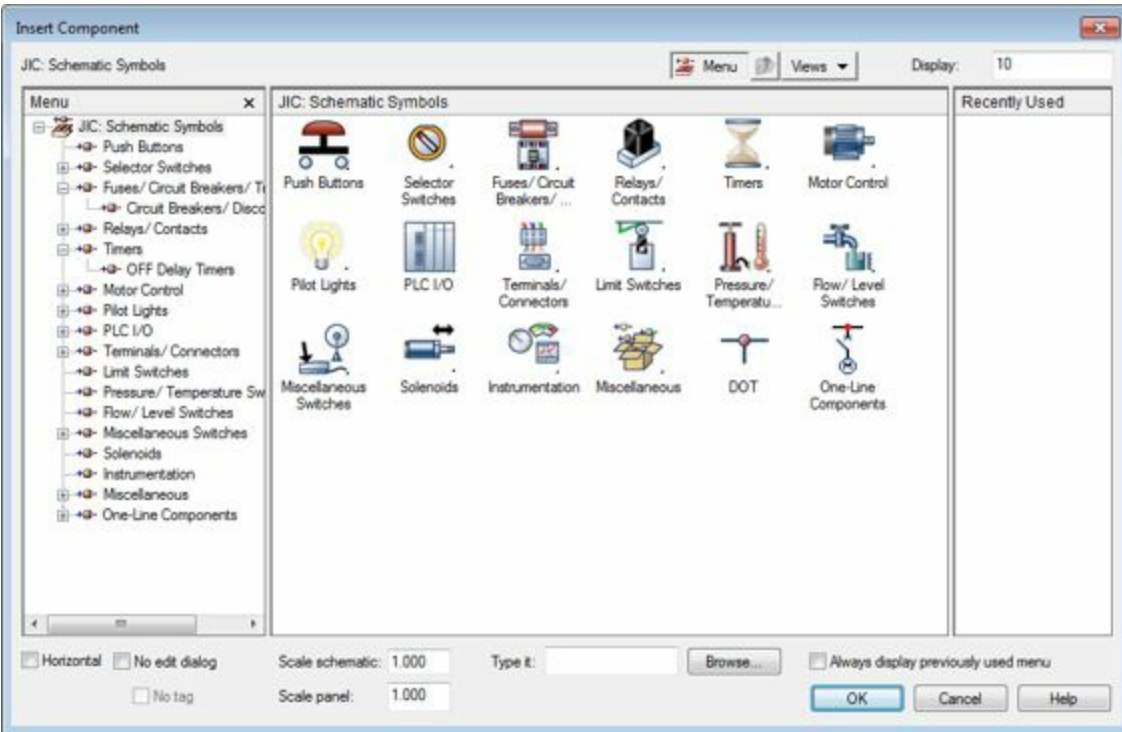

Figure-12. Insert Component dialog box
- Click on the **Icon Menu** button from the **Insert Components** panel in the **Ribbon**. The **Insert Component** dialog box will be displayed; refer to Figure-12.